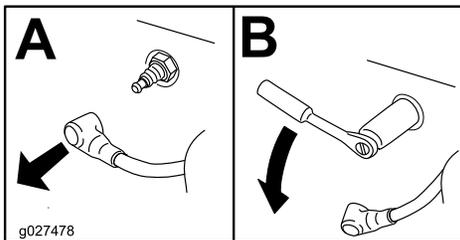

Figure 62
4. Locate and remove the spark plug(s) as shown in Figure 62.